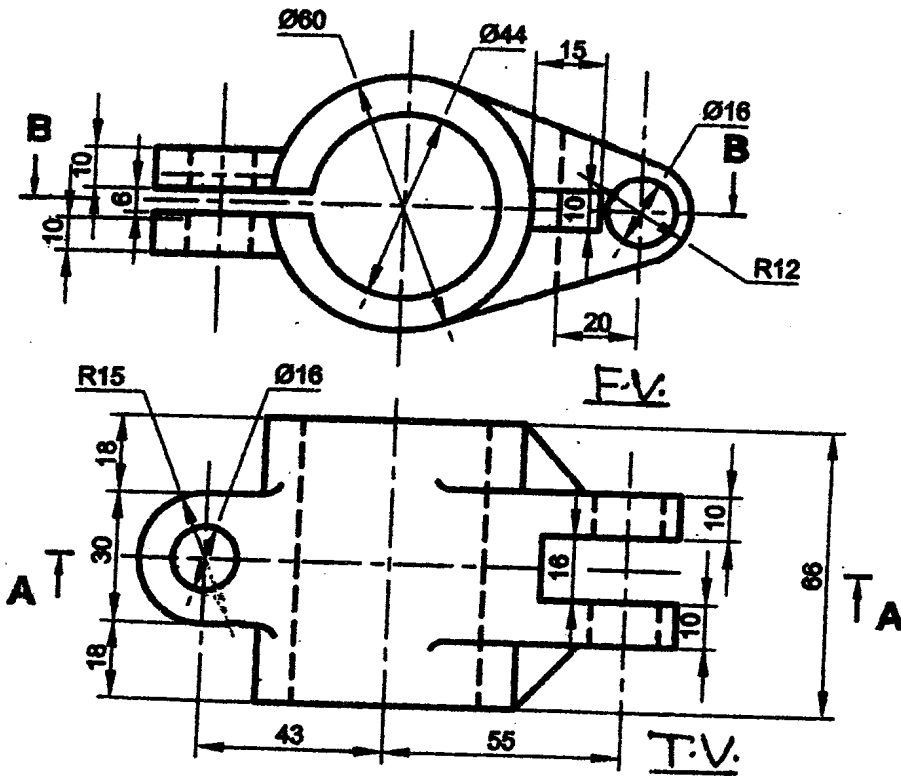

Figure 2.
2. Figure 2 shows the F.V and T.V. of an Object. Draw the following views:-